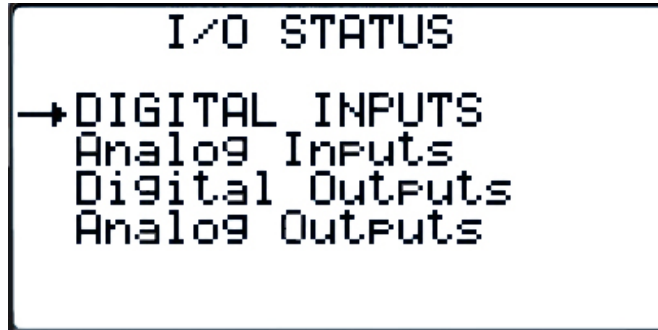

Figure 75
2.3.3.3 I/O Status (Figure 75)